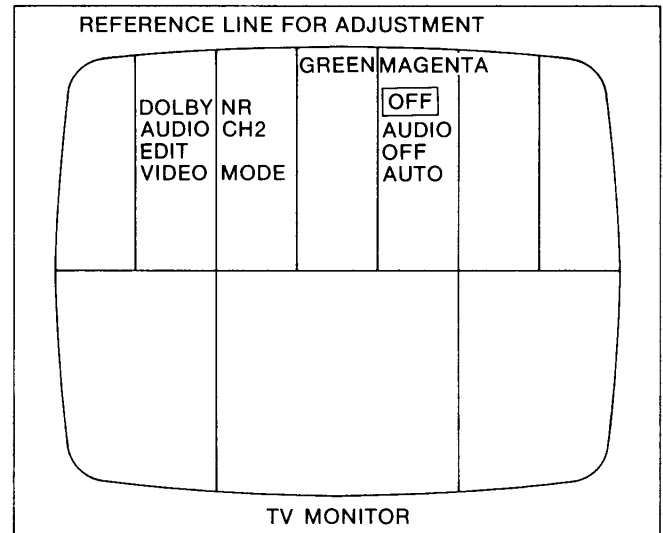

Figure E11
3. Adjust C3586 so that the character of "OFF" for DOLBY NR is positioned as shown in Figure E11.